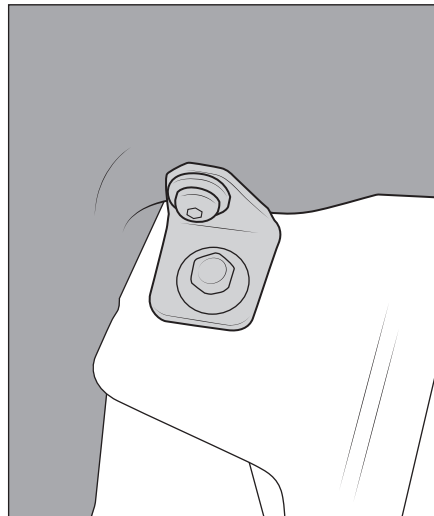

Figure 12
- Install the front mounting bracket using the front fender bolt. Place bracket over fender hole, loosely reinstall fender bolt, and bolt bracket into snorkel threaded insert with provided M6 bolt and washer (fig. 12). Tighten both until snug, but not fully torqued. Adjust lower snorkel body and brackets so that they sit evenly with fender and cowl, without excessive gaps or any paint contact. Once snorkel is properly positioned, tighten front M6 bolt going into snorkel body to **100 in-lb.**